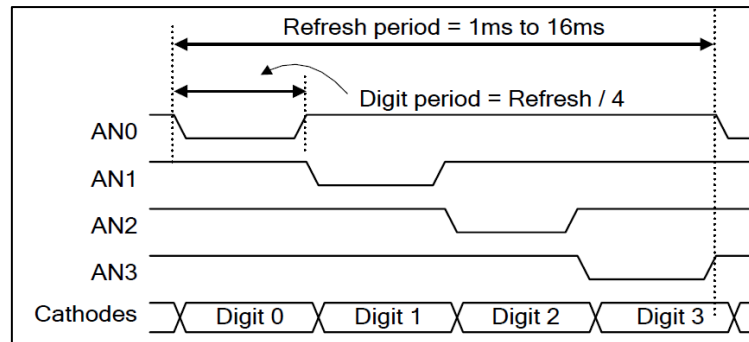
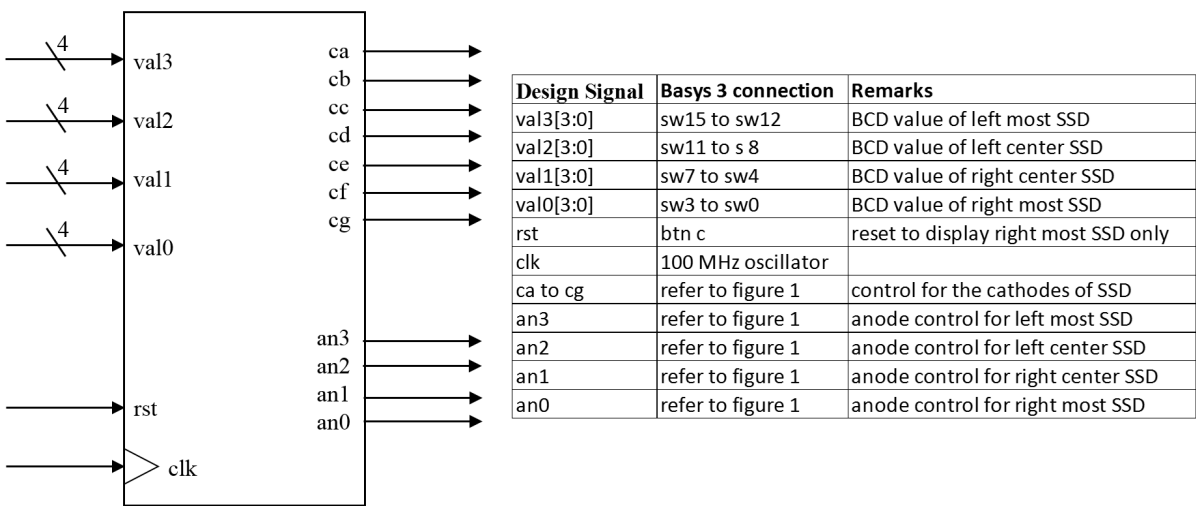

Figure 2: Time-multiplexed Timing Diagram for the four SSD Devices
Figure 4: Symbol of the time multiplexed quad SSD driver design
Since all four digits share the same segment controls, to get a unique display on each of the digits, you must apply a technique called time-multiplexing as shown in **Figure 2**. For the human eyes to see the display correctly, the refresh period should typically fall between 1 ms to 16 ms.
Figure 4 shows the symbol for the design and the adjacent table shows the connections of the signals to the Basys3 board. Note that the clk signal is taken from the on-board 100 MHz oscillator, hence we need to divide the clk signal to obtain the correct time-multiplexed anode control signals shown in **Figure 2**.
- 2.12 In the *Sources* pane, expand the *Constraints* folder and double-click the **ssd.xdc** entry to open the file in text mode. Analyze the constraint file and understand it with reference to **Figure 4**.